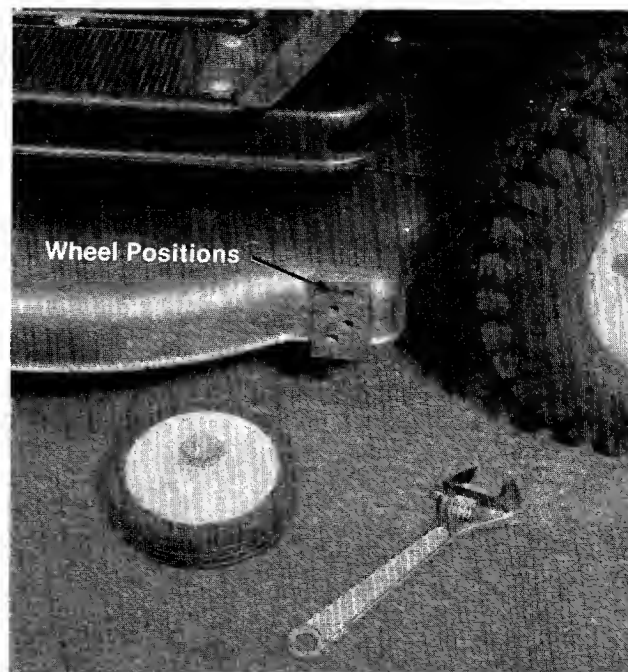

Figure 8.
1. Remove the two deck wheels by unscrewing the axle bolts. (See figure 8.)